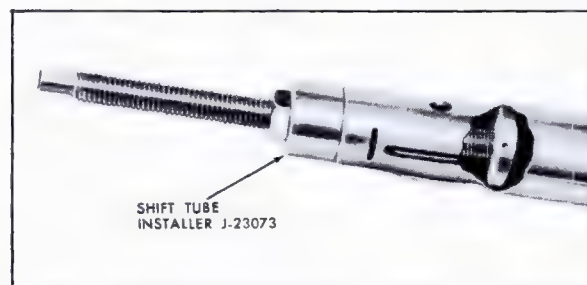

Fig. 9-56 Installing Shift Tube Installer
1. Install part of Shift Tube Installer, J-23073, in shift tube, Fig. 9-56.